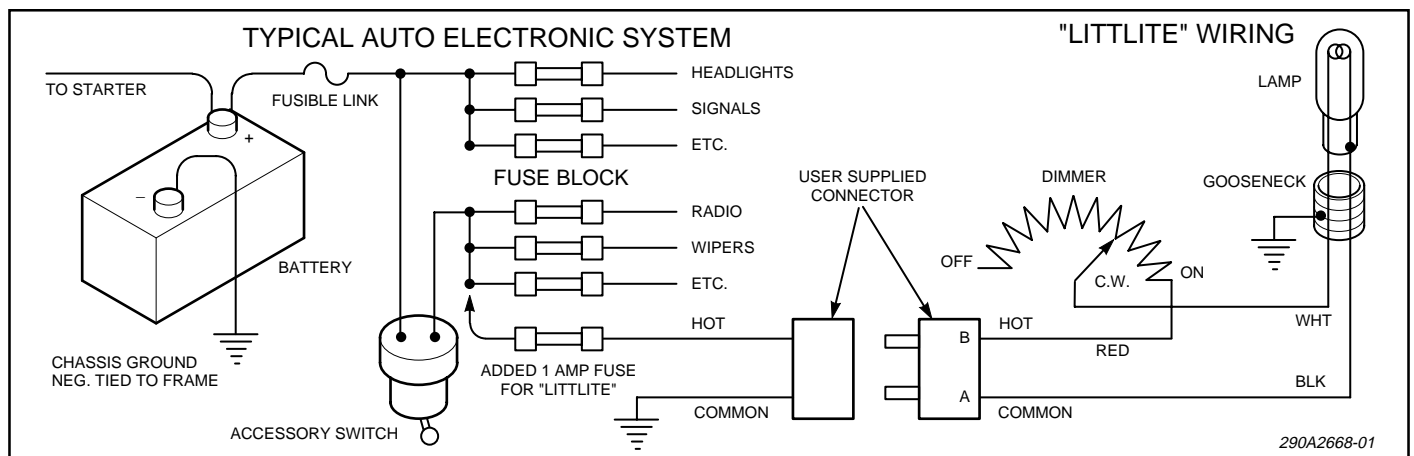

Figure 1.
Using figure 1 as a guide, proceed as follows:
3. Connect the red lead as shown in figure 1.